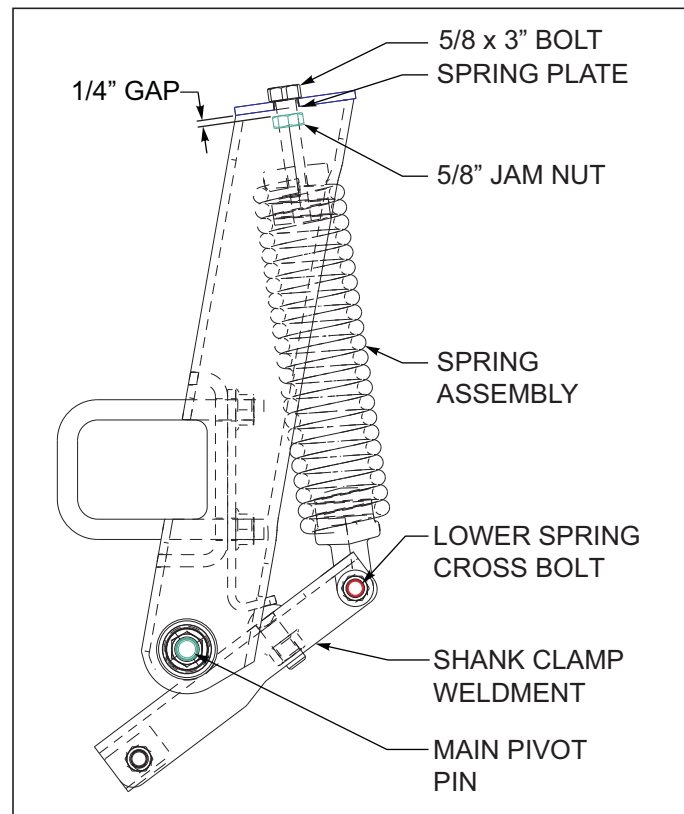

Figure 4-11: Spring Adjustment
3. When adjusting/assembling the spring assembly, tighten the upper spring bolt, but leave approximately 1/4" gap above the spring jam nut **See Figure 4-11**. This will leave the proper clearance for the spring to pivot. Lock the jam nut against the top of the spring, not the top of the mount. Likewise do not over tighten the lower spring cross bolt. Remove any slack in the bolt, but still allow the lower spring to pivot freely.